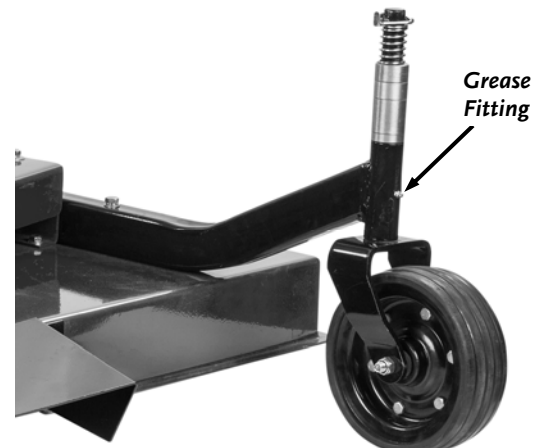

Figure 33
4. Apply a quality general-purpose lithium grease with a hand-pumped grease gun to each of the Support Grease Fitting (**Figure 33**).